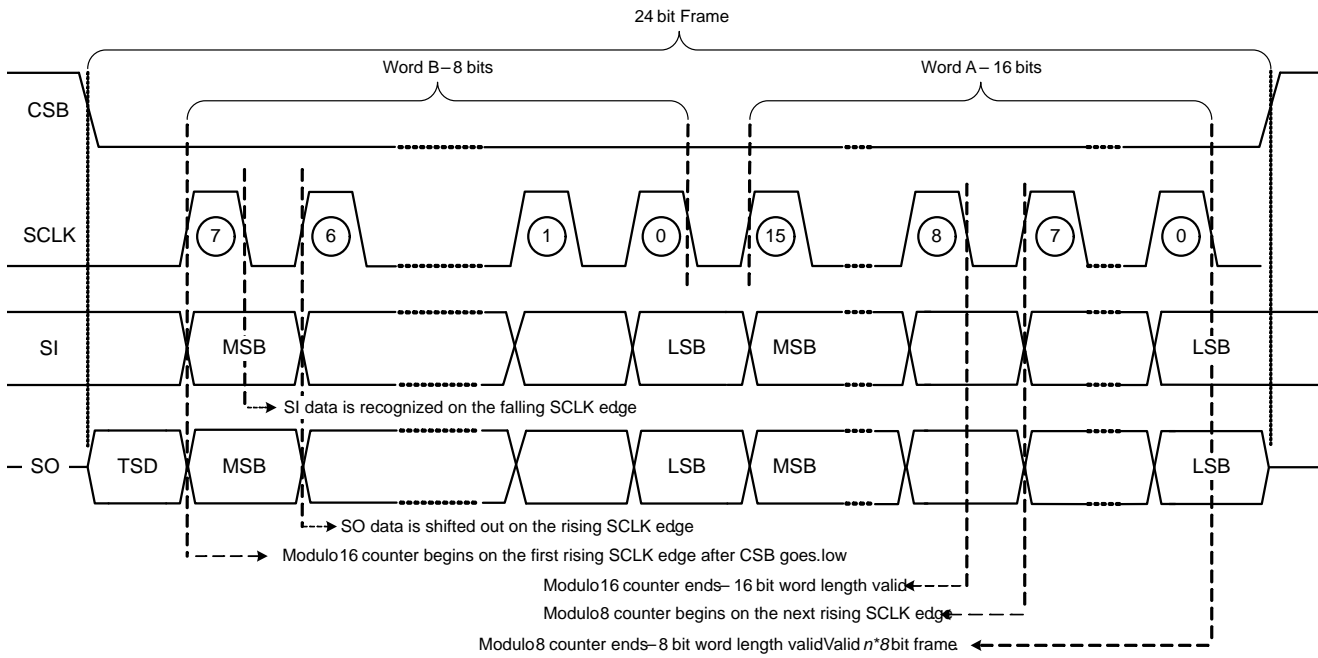

Figure 17. SPI Data Recognition and Frame Detection
Daisy chain communications between multiple of 8-bit SPI compatible IC's is possible by connection of the serial output pin (SO) to the input of the sequential IC (SI). The clock phase and clock polarity respect to the data must be the same for all the devices on the chain. Figure 16 illustrates the hardware configuration of NCV7728 daisy chained with a $n \times 8$ bit (ie $n = 2$; 16 bit) SPI device. The progression of data from the MCU through the sequential devices is also shown. Strict adherence to the frame format illustrated in Figure 17 is required for the proper serial daisy chain operations.